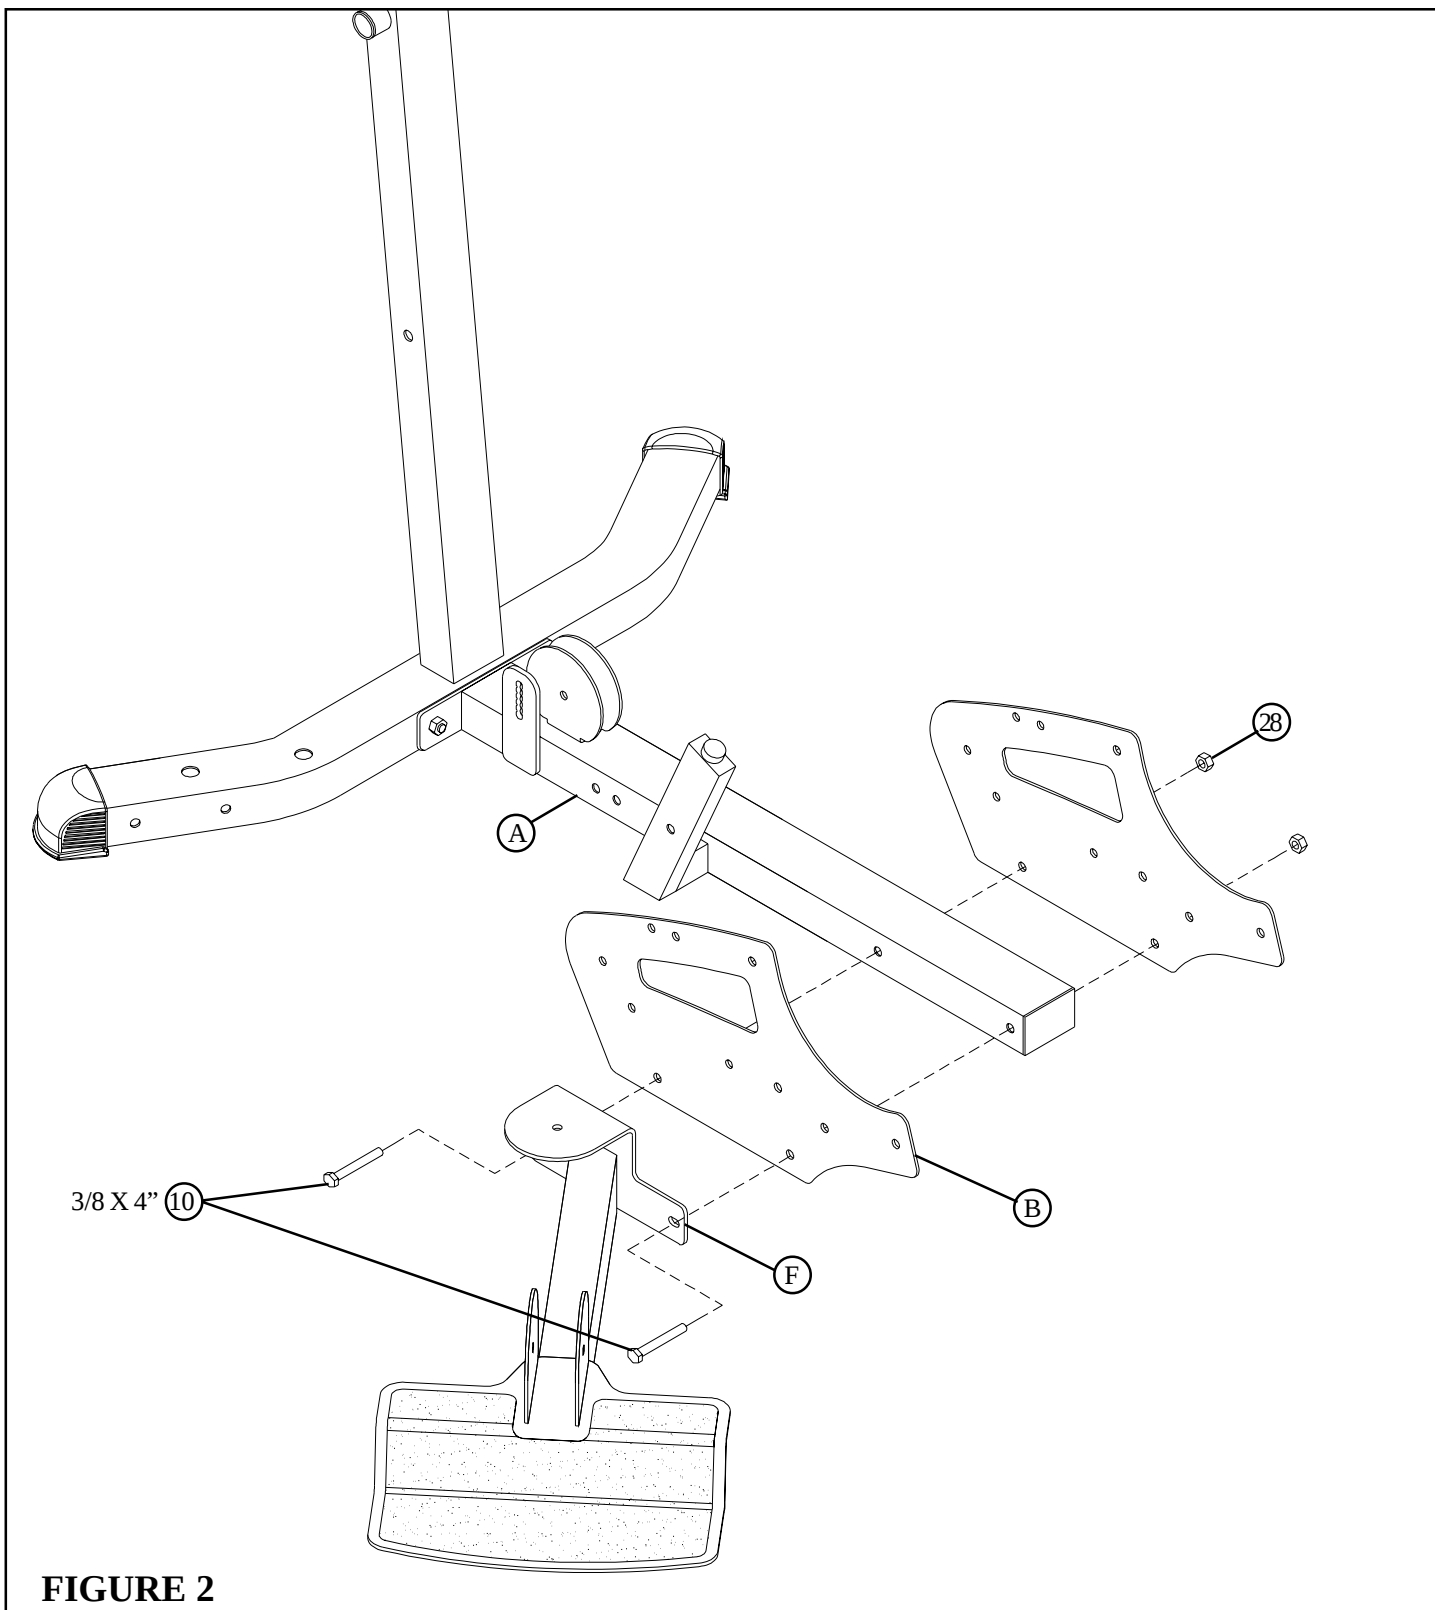

**FIGURE 1**
- **SECURELY** assemble the REAR FRAME (D) to the BASE (A) using two 3/8 X 3-3/4" BOLTS (11), two 3/8" WASHERS (23) and two 3/8" LOCK NUTS (28) as shown in FIGURE 1.